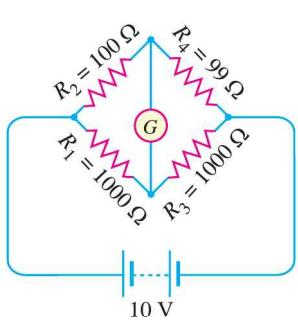

Fig. 1.52
7. Using Thevenin's theorem, find the current through the galvanometer in the Wheatstone bridge shown in Fig. 1.52. [38.6 μA]